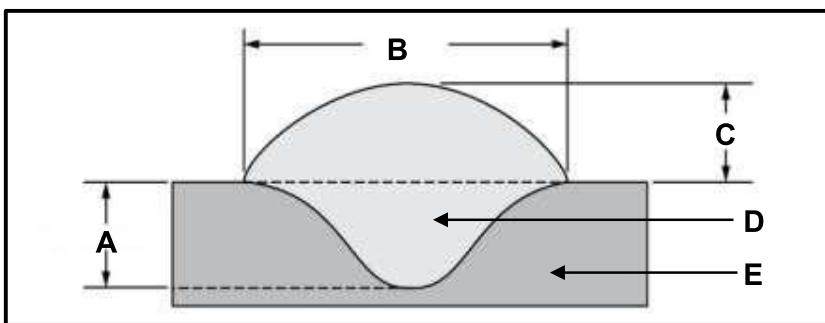

FIGURE 8.4 (5)
- 8.4 FIGURE 8.4 below shows weld dimensions. Label **A–E**.